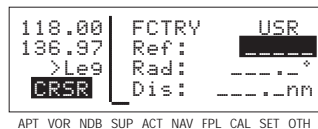

Figure 5-32
- Press **ENT**. The display will change to a format like figure 5-32 with the cursor over the reference waypoint field.